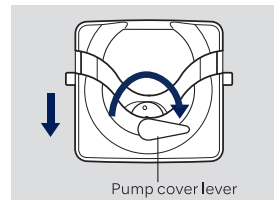

Fig.1
- 1 Turn the Pump Cover lever for the Irrigation Pump, located at the side of the Control Unit, clockwise by 180 degrees to open the Pump Cover. (Fig.1)